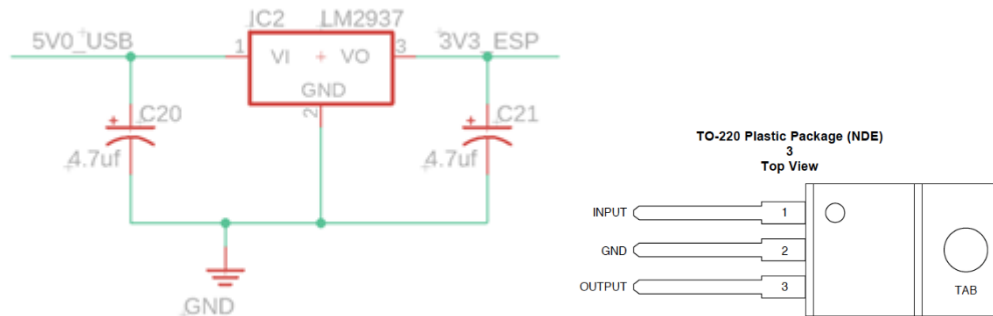

Figure 4.6: Regulator circuit using the LM2937 linear regulator. Please test this circuit before attaching to ESP8266.
Figure 4.4: Detailed schematic of the ESP8266 interface. UART5 is used. The +3V3 supply for the ESP8266 is different from the regular LaunchPad +3.3V, see Figure 4.6.
3. Build and test the 3.3V regulator circuit shown in *Figure 4.6* before connecting this 3.3V output to the ESP8266. Place a current meter between the regulator output and the ESP8266 power input.